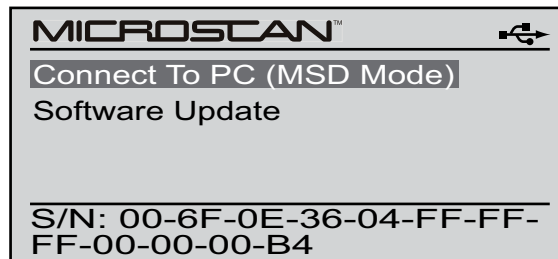

Figure 4-6 Connect to PC screen
2. Select **Connect to PC** from the menu (Figure 4-6), then press **Y** to make the selection.